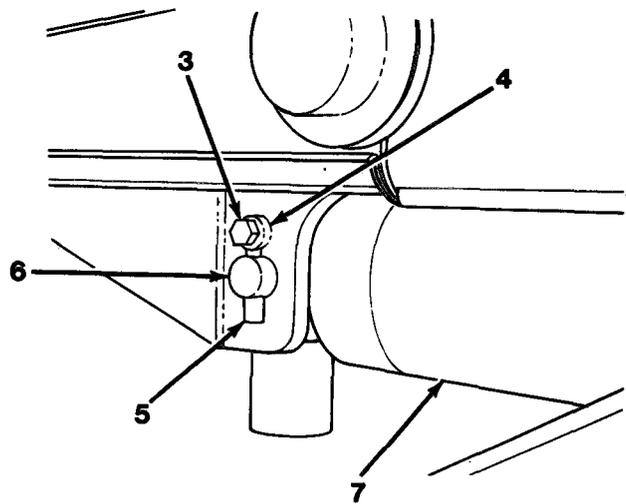

Figure 15-5
14. Remove capscrew (3), lockwasher (4), rod (5) and pin (6) from boom hoist cylinder (7, Figure 15-5) at boom.